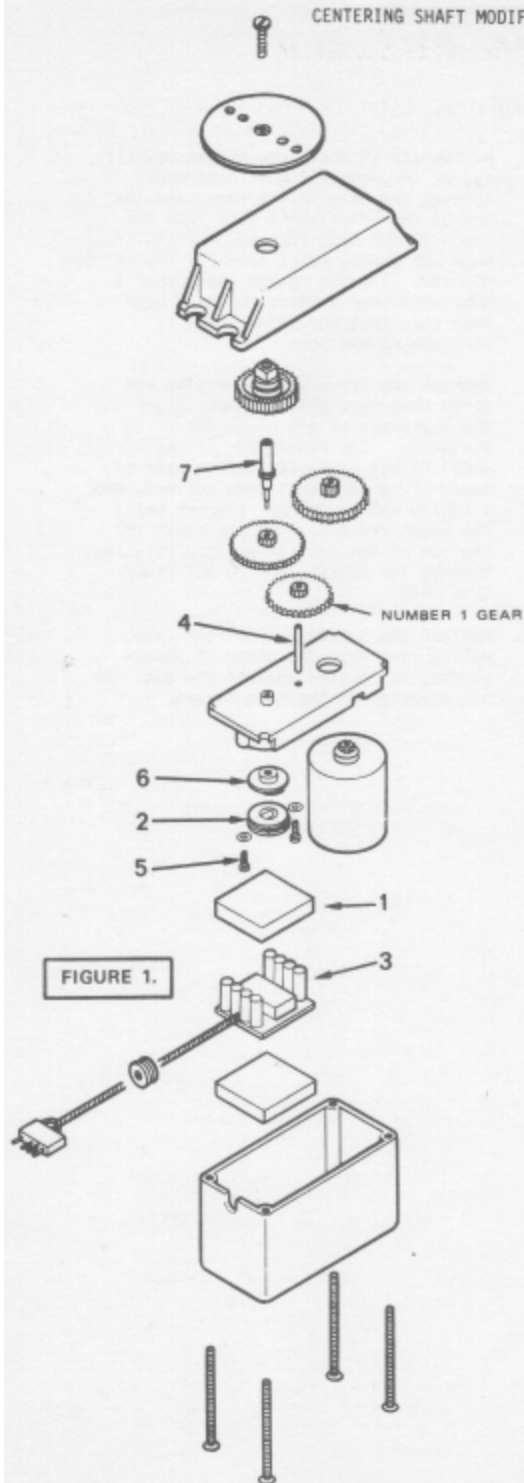

FIGURE 1.
3. Remove the wheel and the four screws from the servo case. (Refer to Figure 1 for all steps, unless otherwise indicated.)
4. Hold the servo upside down and carefully separate the top and bottom halves of the case, removing both from the body of the servo. As you pull the case apart, look for the small square piece of padding (1) that insulates the potentiometer (2)--hereafter called the "pot"--from the circuit board (3). Note that the green side is towards the pot. Remove the padding.
11. Make sure that gears 1 and 3 are on the idler shaft in the correct position. See Figures 1 and 3. The shaft must be seated in the small bearing, or cup.